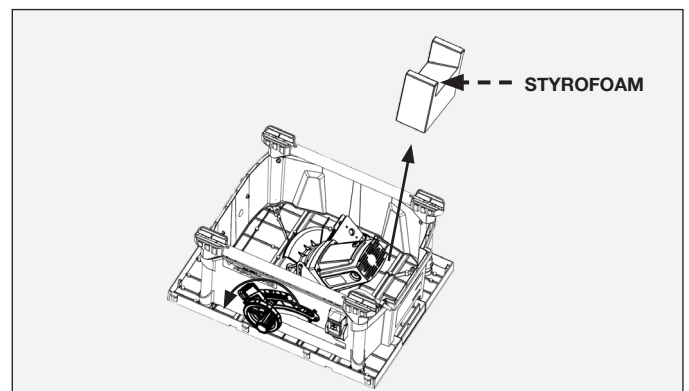

FIGURE 5
**NOTE:** Before assembling stand to saw, unlock bevel lock, tilt blade/motor assembly and remove Styrofoam piece from under saw motor. The bevel lock is the handle located underneath the blade height adjustment wheel (Fig. 5).